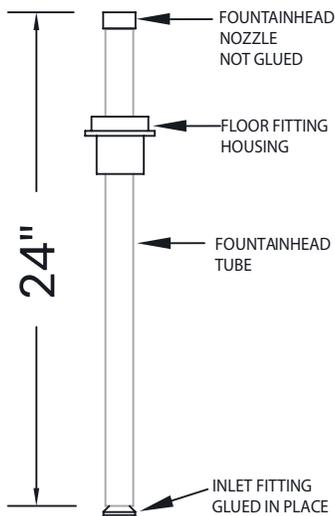

Figure 3
3. Remove the fountainhead nozzle (see Figure 3) from the fountainhead tube and cut the tube to the length required for the nozzle to rise within 2" of the pool water surface. Cut the plain end of the tube opposite the end with the inlet fitting. Note! The SD22 is already sized for a 24" water depth. The fountainhead tube is 24" long, however, the floor fitting is 2" deep and absorbs 2" of the length. If the water depth is 18", cut the tube 18" long and the nozzle will automatically be 2" below the water surface.
4. Remove the fountainhead nozzle (see Figure 3) from the fountain head tube and cut the tube to the desired height of the Water Lily Fountain. Since the tube is 24" long, the maximum height possible is 18" above the water level in an area where the water depth is a maximum of 6" deep. If an 18" fountain is desired the tube does not need to be cut. Simply glue the fountain head to the 24" tube. For proper effect, **do not exceed 18" above water.**
3. Remove the fountainhead nozzle (see Figure 3) from the fountainhead tube and cut the tube to the length required for the nozzle to rise **1" above** the pool water surface. Cut the plain end of the tube opposite the end with the inlet fitting.